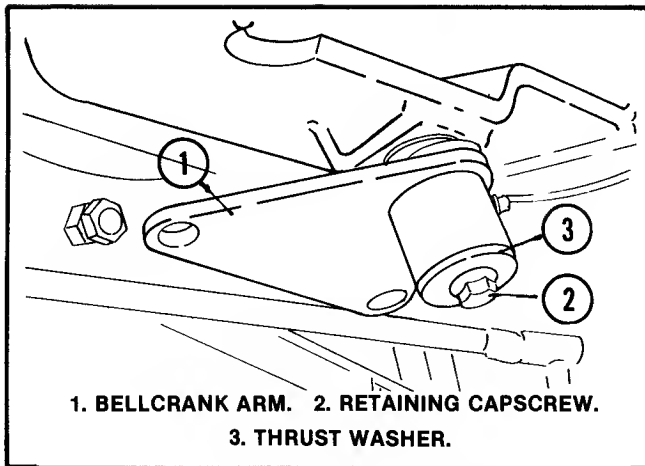

FIG. 2.8 — STEERING BELLCRANK DETAIL
2. Remove retaining bolt and slide bellcrank off Fig. 2.8.
4. Install bellcrank and secure with retaining bolt, Fig. 2.8.